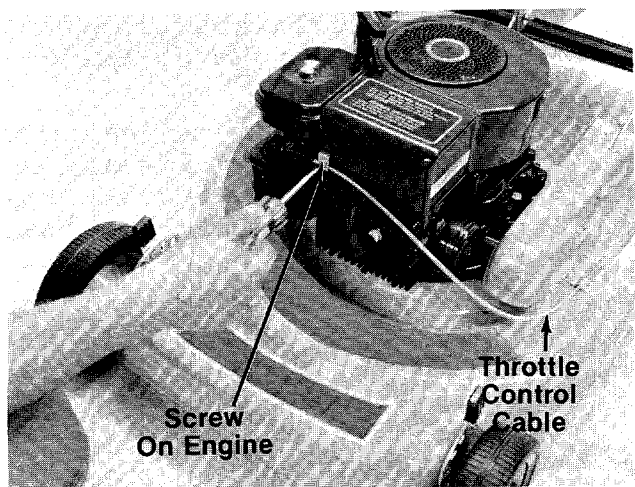

FIGURE 18.
1. Loosen, but do not remove, screw securing throttle control wire assembly at engine. See figure 18.